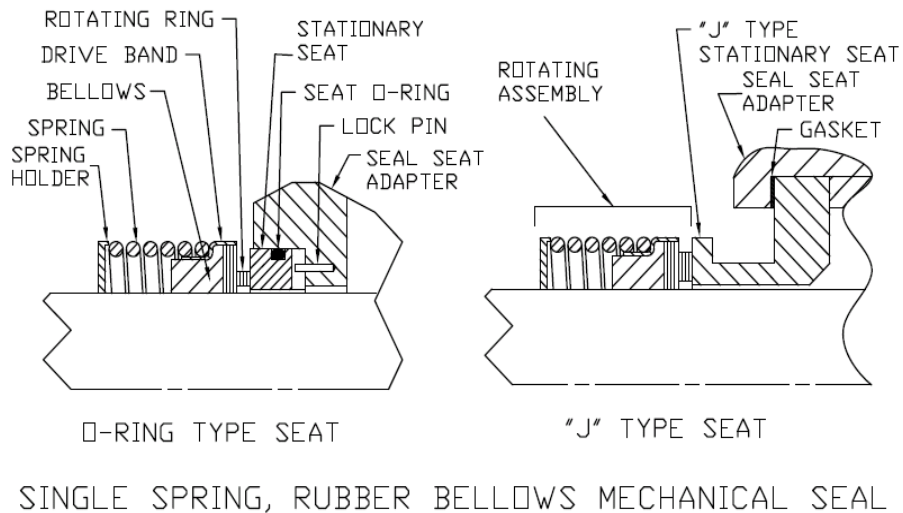

Figure 2 – Single-Spring Mechanical Seal
Instruction manual covers 3E-118 and 118P Series pumps. Specific models covered by this manual are identified in Table 1. Model of each particular pump is identified on pump end cover. Refer to Figure 1 for definition of model designator. Refer to assembly drawing corresponding to your pump model, Figures 2 and 3, Figures 5 through 8, and Figures 11 through 14 as you use this instruction manual.
SERVICING SEAL AND BEARING (refer to Figures 2 and 3, Figures 5 through 8 and 14)
- a. **Figures 5 through 8** - Remove outer Tru -Arc ring (15) from the groove of power rotor. Support sleeve assembly (093) and press power rotor (7) down through ball bearing (11) and sleeve assembly (093). **Figure 14** remove inner True-Arch ring (15). Remove mechanical seal seat (Figures 2 and 3) with O-ring (Figures 2 and 3) from sleeve subassembly (093) and remove O-ring from seal seat, if required.
- b. Remove rotating assembly (Figure 2 and 3) of mechanical seal (016) from power rotor (007) as outlined below.
- (1) **Single Spring (Figure 2)** Slide rotating assembly from power rotor (007).
- a. With power rotor (007) and mechanical seal rotating assembly (Figures 2 and 3) coated with lubricating oil, install the seal rotating assembly (Figure 2 and 3)
- (1) **Single Spring (Figure 2)**. Slide rotating assembly (on power rotor 7) until rotating assembly is positioned next to idler stop on power rotor 7.
- b. Slide mechanical seal O-ring (Figures 2 and 3) in O-ring groove of mechanical seal seat (Figures 2 and 3). Align seat (Figure 2 and 3) slot with spring pin located in sleeve subassembly (093) and slide assembled seat in sleeve subassembly 093. Apply lubricating oil on running faces of mechanical seal seat (Figures 2 and 3). Install O-ring in groove of sleeve sub assembly (093). Install assembled sleeve subassembly on power rotor (007) with seal seat (Figures 2 and 3) contacting installed rotating assembly (Figures 2 and 3).
DISASSEMBLY AND ASSEMBLY PROCEDURES (Refer to Figures 2 and 3, Figures 5, 6, 7, 8, 12, and 14)